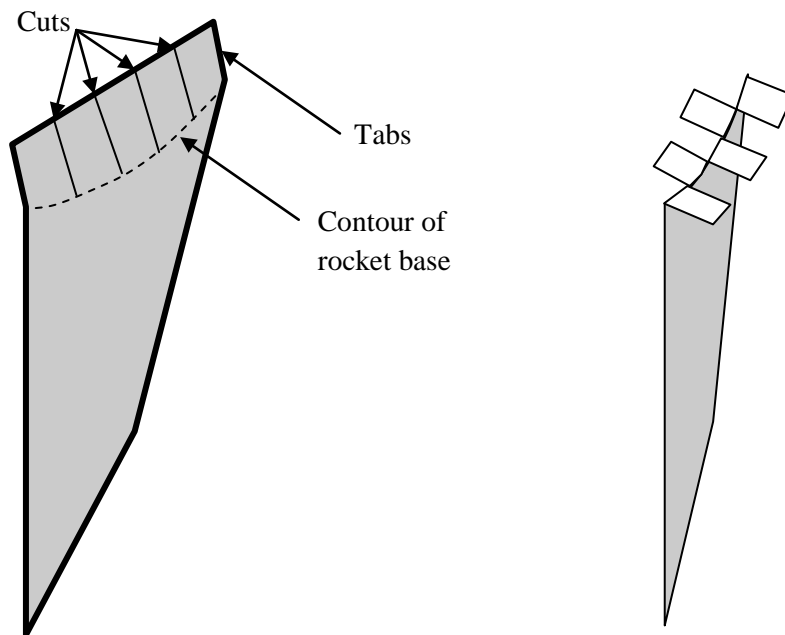

Figure 2 Fins made from flexible material.
Note 1: Alternative materials for the fins can be considered such as (1) Silly Winks foam board from Hobby Lobby, which is a flexible foam board or (2) polyethylene terephthalate (PET) sheet, which is the same material as the bottle and is flexible in thin sheets. When the rocket hits the ground, rigid fins tend to crack off the rocket whereas flexible fins do not. Flexible fins can be secured to the rocket using tabs that alternate left and right (Figure 2).